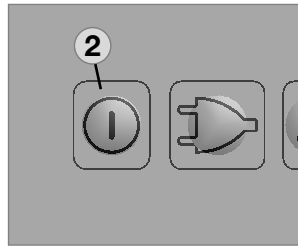

Fig. 46
- Switch off MES and AES models by pressing button **(2)**. Keep button **(2)** pressed for 3 seconds. The display disappears and the appliance is fully switched off (Fig. 46).